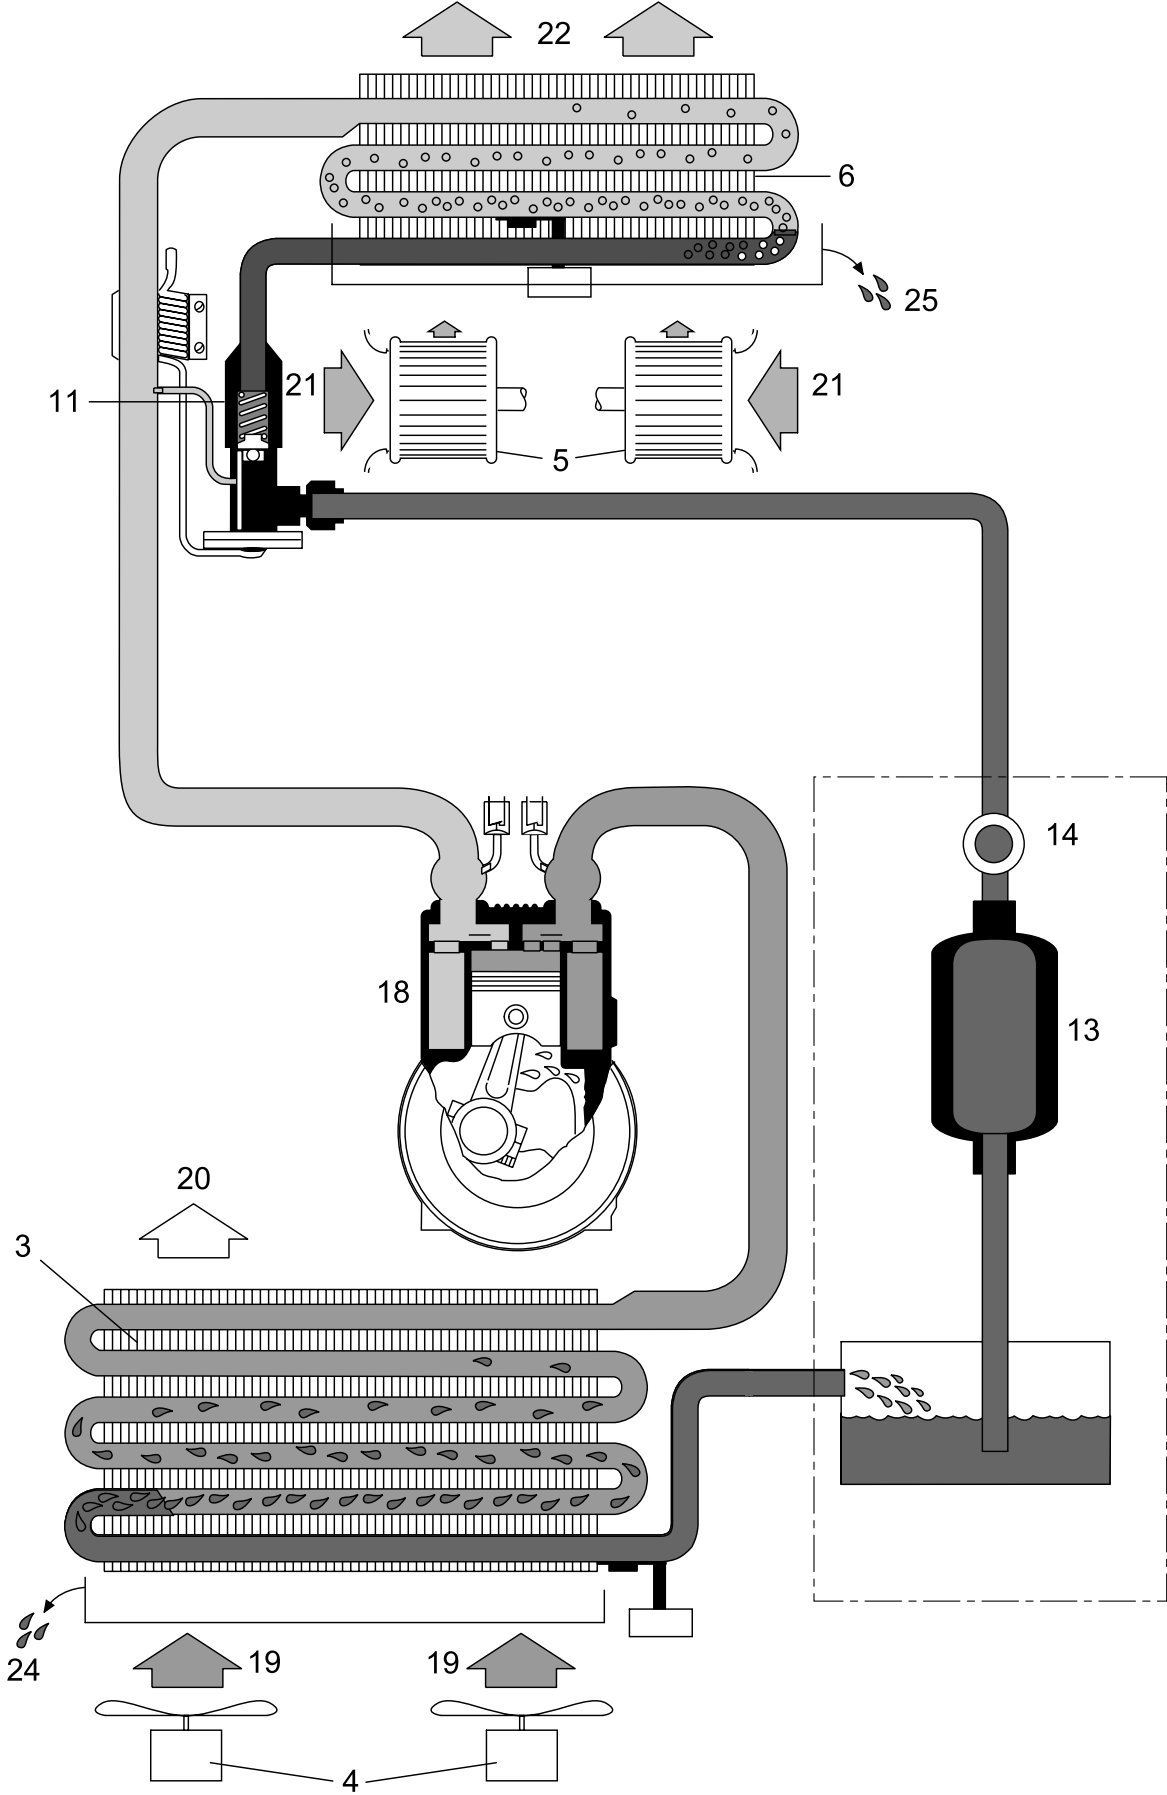
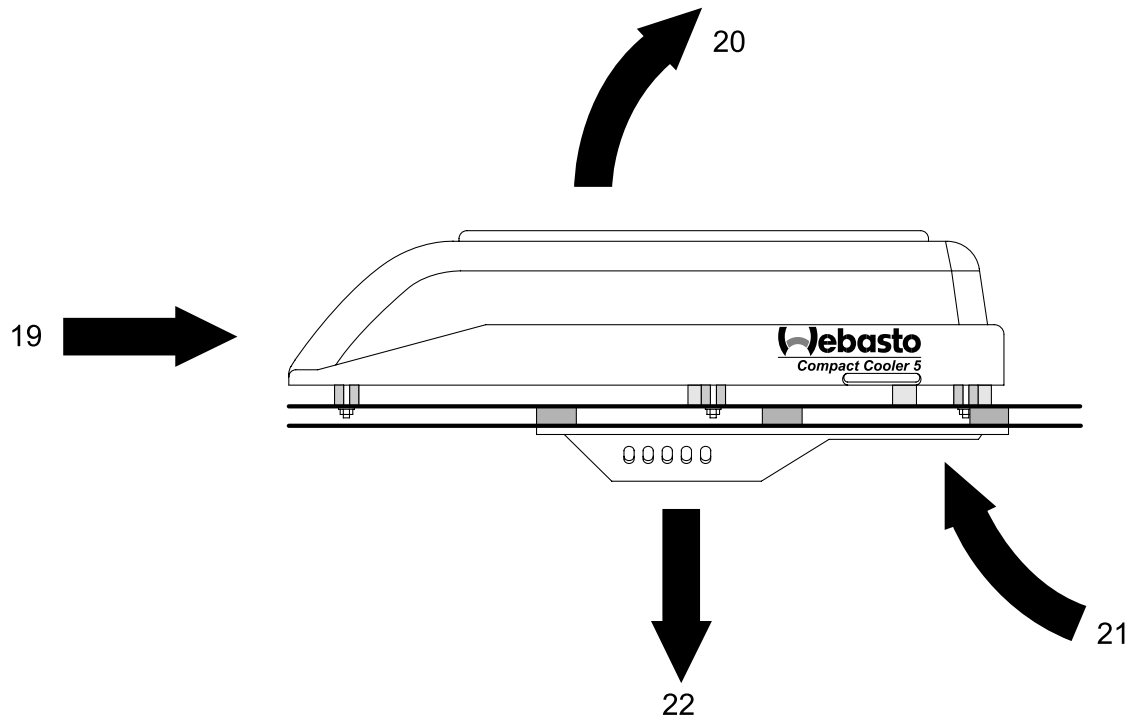

Fig. 2.4
Fig. 2.5
When the air-conditioning system is switched on using the ON / OFF rocker switch in the air distribution panel, the compressor (18, Fig. 2.4) engages via the electromagnetic clutch and is driven by the vehicle engine via the drive belt. The compressor compresses the refrigerant gas and transports it to the condenser (3), where it gives off heat as it condenses.
The resultant condensation heat is given off into the ambient air as it passes through it (19 and 20 Fig. 2.4 and Fig. 2.5). The two axial fans (4) provide adequate ventilation even when the vehicle is not in motion.